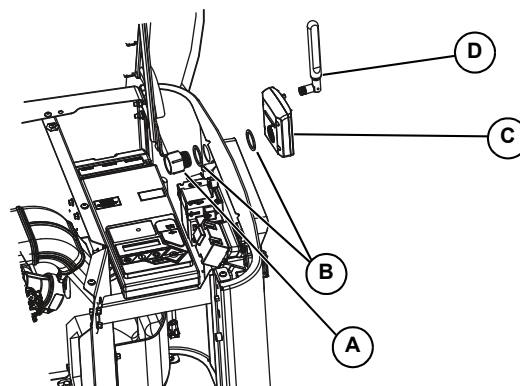

Figure 3-2.
10. Route six pin connector through plastic fitting and one green gasket. See A and B in Figure 3-2.
13. Thread antenna (D) into Mobile Link unit (C). Turn antenna clockwise until secure. Position antenna pointing up.